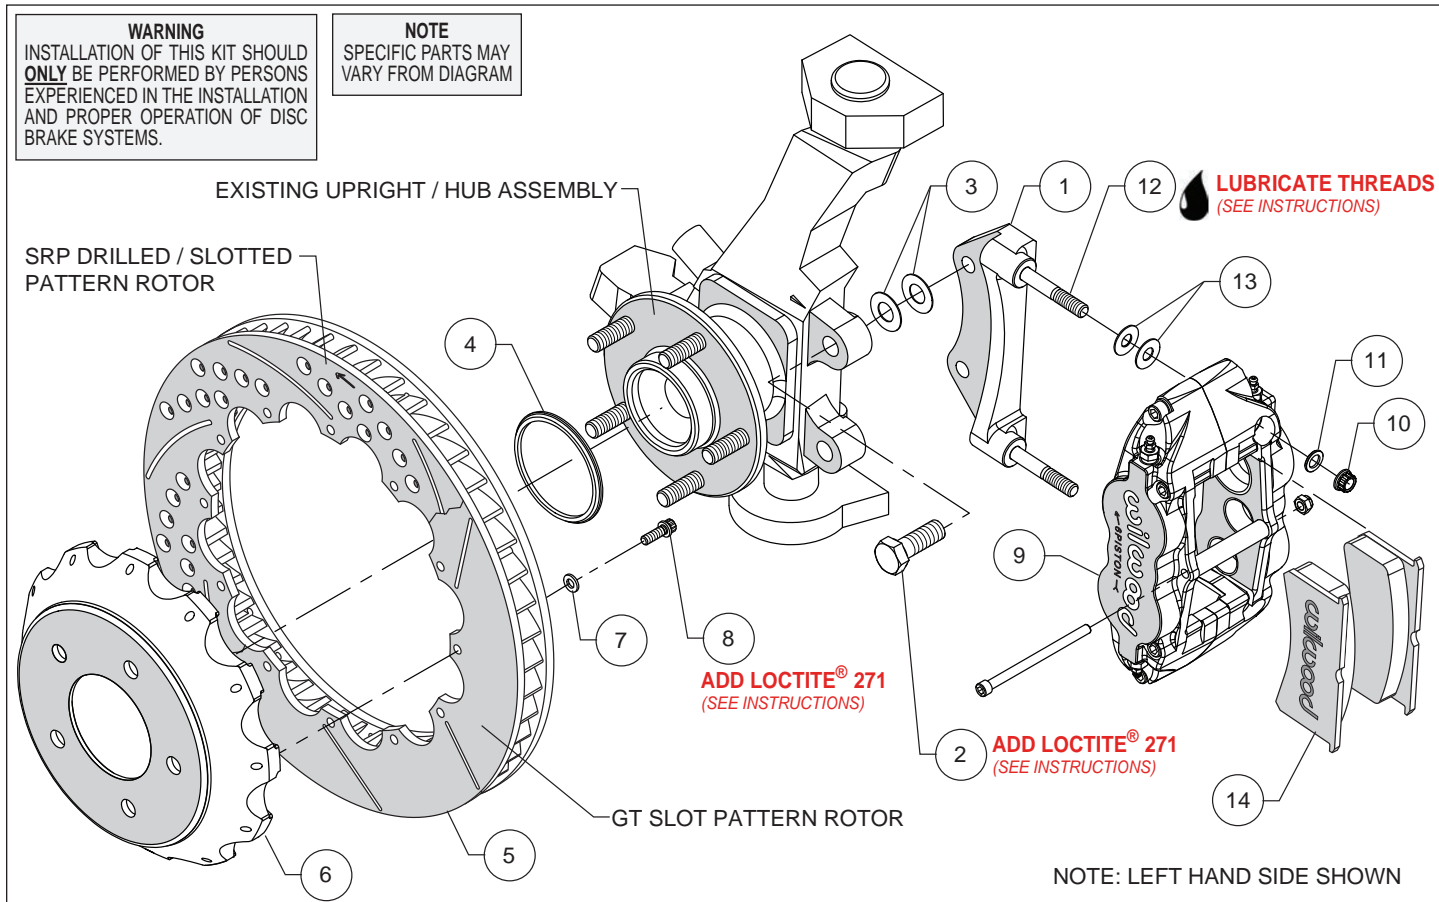
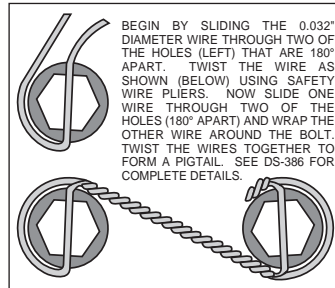

Figure 1. Typical Installation Configuration
Figure 3. Safety Wire Diagram
**Assembly Instructions** (numbers in parenthesis refer to the parts list and Figure 1 on the preceding pages):
- The caliper mount bracket (1) should initially be installed with clean, dry threads on the mounting bolts. Orient the bracket as shown in Figure 1 and Photo 1, and install using shim washers (3) and bolts (2). Initially place two shims (3) on each bolt between the bracket and upright, Figure 1. Temporarily tighten the mounting bolts. **NOTE:** *The bracket must fit squarely against the mount bosses on the upright.* Inspect for interference from casting irregularities, machining ridges, burrs, etc. Later, after the caliper alignment has been checked, the mount bolts will be secured using red *Loctite*® 271.
- Orient the rotor (5) and the hat (6) as shown in Figure 1 and Photo 2. Attach rotor to hat using bolts (8) and washers (7). Using an alternating sequence, apply red *Loctite*® 271 to the threads and torque bolts to 155 in-lb. For an added measure of security, the bolts may be safety wired using standard 0.032 inch diameter stainless steel safety wire as shown in Figure 3. Please refer to Wilwood's data sheet DS-386 (available at [www.wilwood.com/Pdf/DataSheets/ds386.pdf](http://www.wilwood.com/Pdf/DataSheets/ds386.pdf)) for complete safety wire installation instructions.
- Slide the rotor registration adapter (4) onto the axle register on the axle hub with the smaller O.D. facing outward, Photo 3. Slide the hat/rotor assembly onto the axle hub. **NOTE:** *The hat must fit flush against the axle hub flange or excessive rotor run out may result.* Install three lug nuts (finger tight) to keep the hat/rotor assembly in place while continuing with the installation.
- NOTE:** *This kit contains distinct right and left hand calipers that must be mounted in a specific direction, as described below.* Lubricate the caliper mounting studs (12) with lightweight oil. Initially place two .035" thick shims (13) on each stud as shown in Figure 1 and Photo 4. Mount the caliper (9) onto the bracket (1) using lock nuts (10) and washers (11), Figure 1. Ensure that the caliper is mounted so that the largest pistons are at the rotor exit end of the caliper, in relation to the direction of rotor rotation. Temporarily tighten the lock nuts and view the rotor through the top opening of the caliper. The rotor should be centered in the caliper, Photo 5. If not, adjust by adding or subtracting shims (3) between the bracket and the upright. Always use the same amount of shims on each of the two mounting bolts. Once the caliper alignment is correct, remove the bracket mounting bolts one at a time, apply red *Loctite*® 271 to the threads, and torque to 75 ft-lb.